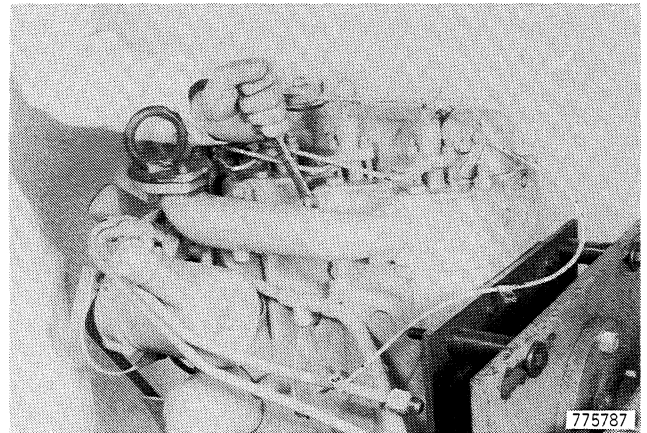

Figure 41
- 16. Remove the nuts from the studs that hold the exhaust manifold, Figure 41.